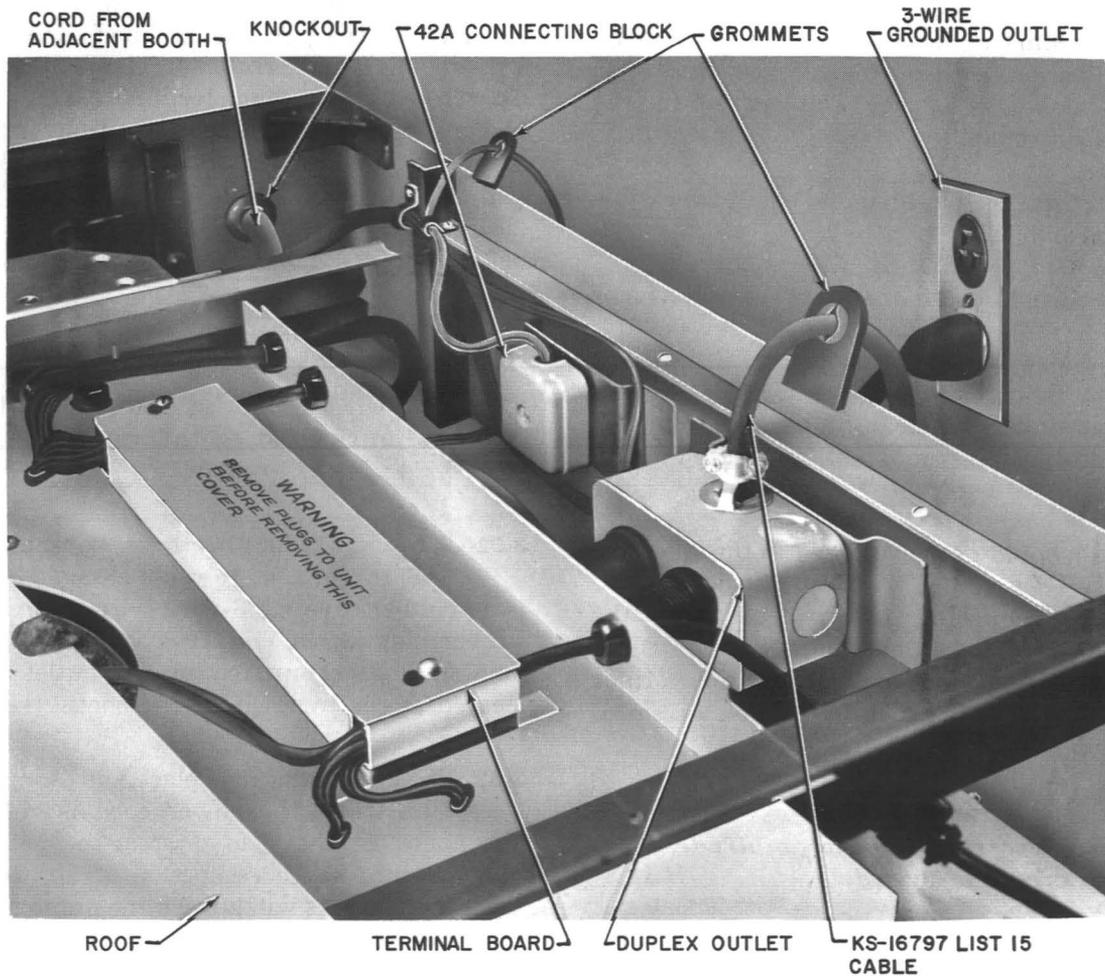

Fig. 1 — KS-19206 Booth, Roof Removed
2.01 To facilitate necessary connections, remove roof retaining screws. Slide roof toward front of booth just far enough so that 42A connecting block is accessible. Remove cover from 42A connecting block and loosen clamp located to the left of the connecting block. Insert station wire through roof grommet, clamp it, pass it under cross brace, and terminate on connecting block. Check termination of station wire leading to coin telephone; replace connecting block cover and tighten clamp (see Fig. 1). Follow procedures outlined in 3.01 through 3.05, Electrical Wiring, before repositioning and securing roof.
3.02 The KS-19206 booth is equipped with a KS-16797, List 15 cable assembly. This unit is a rubber-covered 3-wire cord with a molded rubber plug at one end. It is approximately 5 feet long and is terminated in the outlet receptacle located at the top rear of the booth (see Fig. 1).
3.03 When booths are placed in a multiple installation, the power cord is run through knockouts in the side or rear of columns and plugged into spare receptacle of adjacent booth. Local regulations will govern the number of booths that may be tandemed in this manner. (See Fig. 1)